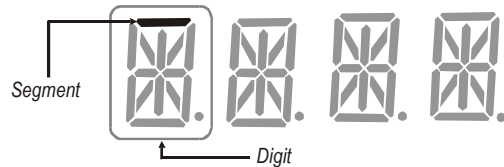

Figure 1
- Select "Configurable Unit". On the right of the channel, the outlines of the 4 digits appear (figure 1). Click on the segments required to activate it.